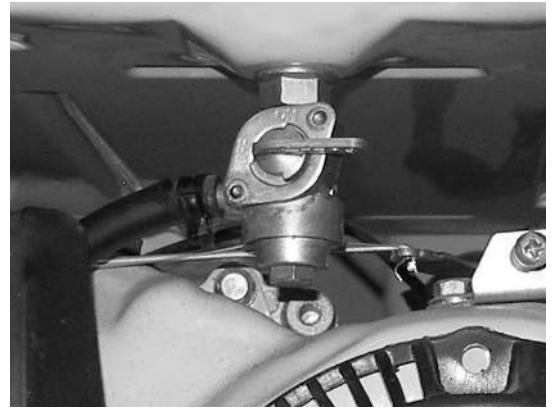

Figure 12 Removing the Fuel Filter Cup
2. Unscrew the fuel filter cup from the fuel valve using a wrench. Turn the valve toward you and unscrew (See Figure 12).